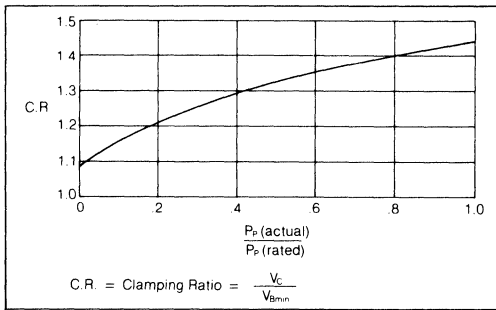

Figure 4 — Graphical Approximation for the Clamping Ratio
If the actual pulse power and pulse width are different from those listed on the data sheet, the clamping voltage can be calculated. The actual calculation method is beyond the scope of this note. Instead, we offer a graphical approximation using Figure 4. The approximation is based on the ratio of the actual and rated pulse power.
- d. Use Fig. 4 to find corresponding value of C.R.